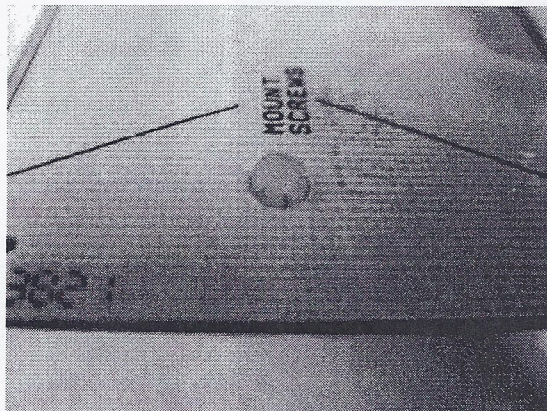
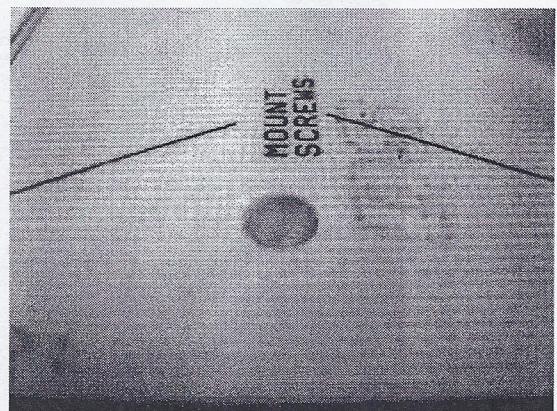

Fig. 10
Fig. 11
2. Push the stand-off through the mounting holes. See **Fig. 10** and **Fig. 11.**